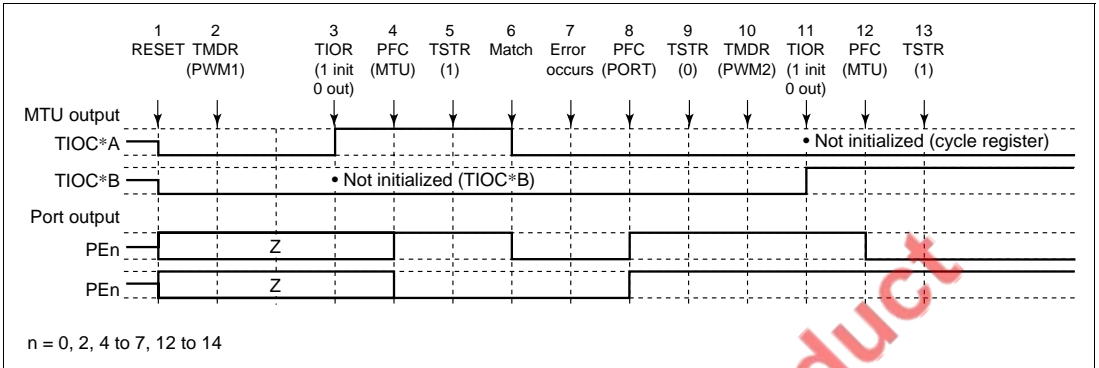

Figure 8.54 Error Occurrence in PWM Mode 1, Recovery in PWM Mode 2
(6) Operation when Error Occurs during PWM Mode 1 Operation, and Operation is Restarted in PWM Mode 2: Figure 8.54 shows an explanatory diagram of the case where an error occurs in PWM mode 1 and operation is restarted in PWM mode 2 after re-setting.